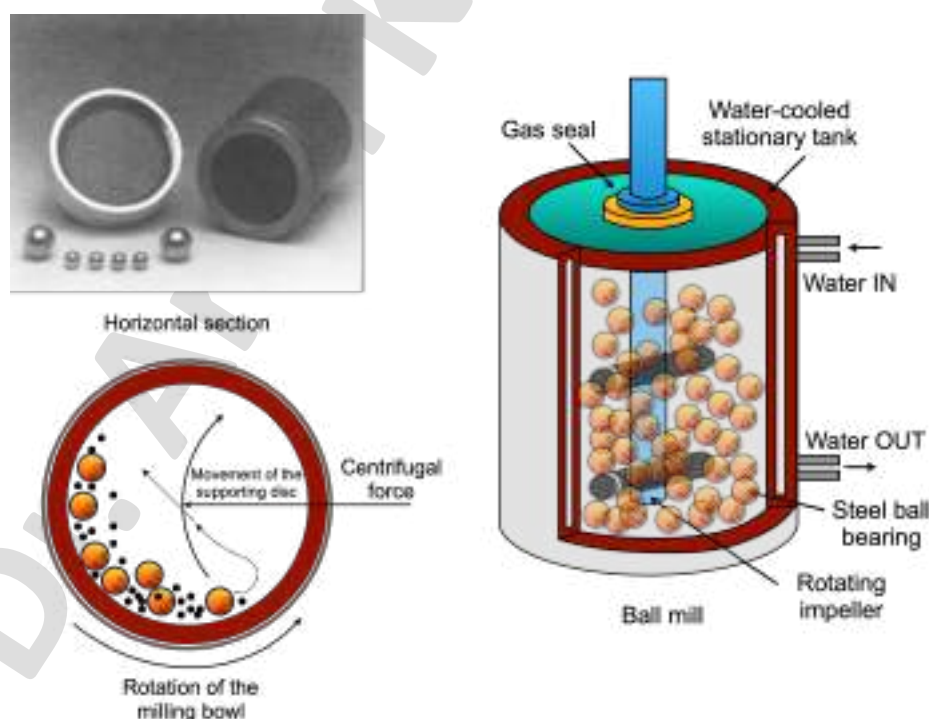

Fig. 26: Schematic of ball milling
- Ball milling is the simplest method to preparation of nanoparticles in the form of powder. The schematic of ball milling is shown in Fig. 26. Ball milling process where a powder mixture placed in the ball mill is subjected to high-energy collision from the balls. The ball mill contains a stainless steel container and many small iron, hardened steel, silicon carbide, or tungsten carbide balls are made to rotate inside a mill (drum). The container may be filled with inert or air gas. The powder of a material is taken inside the steel container. This powder will be made into nanosize using the ball milling technique. A magnet is placed outside the container to provide the pulling force to the material and this magnetic force increases the milling energy when milling container or chamber rotates the metal balls.